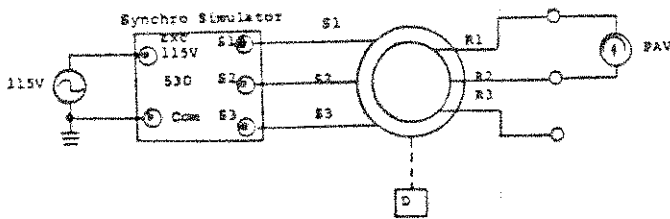

Figure 7-8. Null Test (CDX)
- a. Set up equipment as shown in figure 7-8.